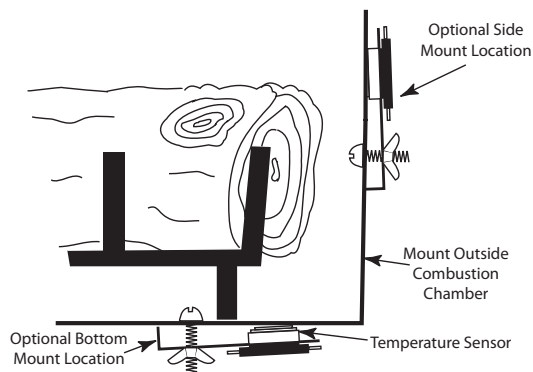

Fig. 5 Mounting Temperature Sensor
2. Place the temperature sensor bracket into location. Using the bolt and wing nut, tighten against the metal surface. (See Fig. 5)
6. Complete the connection of the speed control and temperature sensor. (See Fig. 5)